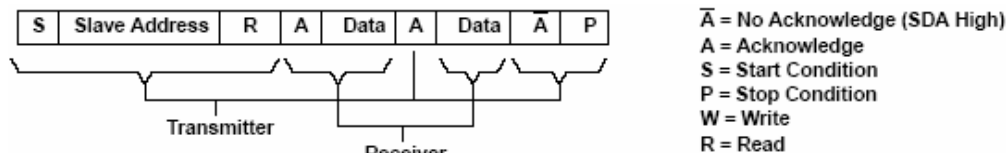
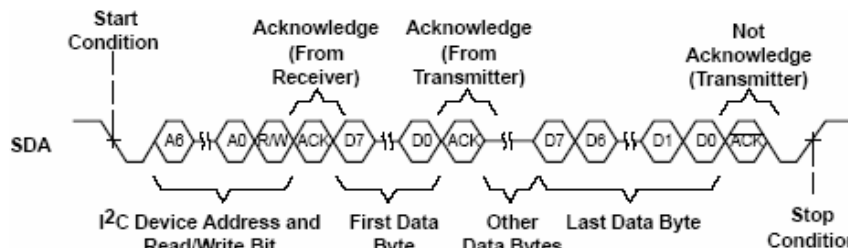

Figure 29. I2C Read Cycle
Figure 30. Multiple Byte Read Transfer
During a read cycle, the slave receiver will acknowledge the initial address byte if it decodes the address as its address. Following this initial acknowledge by the slave, the master device becomes a receiver and acknowledges data bytes sent by the slave. When the master has received all of the requested data bytes from the slave, the not acknowledge (A) condition is initiated by the master by keeping the SDA signal high just before it asserts the stop (P) condition. This sequence terminates a read cycle as shown in Figure 29 and Figure 30. See Example – Reading from the SN75DP139 section for more information.
The SN75DP139 operates using a multiple byte transfer protocol similar to Figure 30. The internal memory of the SN75DP139 contains the phrase “DP-HDMI ADAPTOR<EOT>” converted to ASCII characters. The internal memory address registers and the value of each can be found in Table 3.